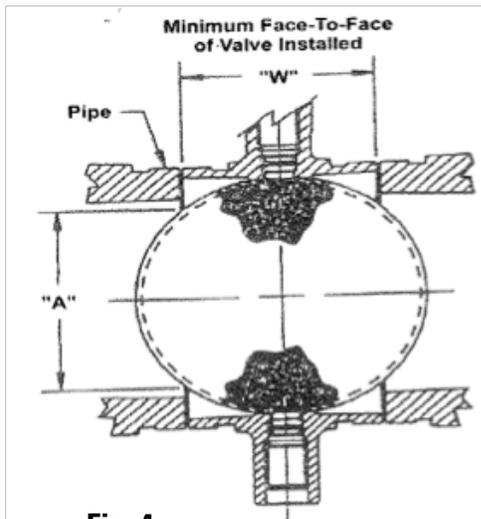

Fig. 4
These valves are designed so the disc, when in the OPEN position, will clear the inside diameter of schedule 40 or 80 steel pipe. See Figure 1 and Table 1 for Lug and Wafer style valves, and Figure 4 and Table 3 for Grooved style valves. Inspect to assure that the disc, in the OPEN position, does not interfere with adjacent components. It is best to have six (6) pipe diameters from other line components. Always close the valve before installation to prevent disc damage. Never apply any type of lubricant to the disc, seat, or rubber seal faces as it may not be compatible with the rubber.